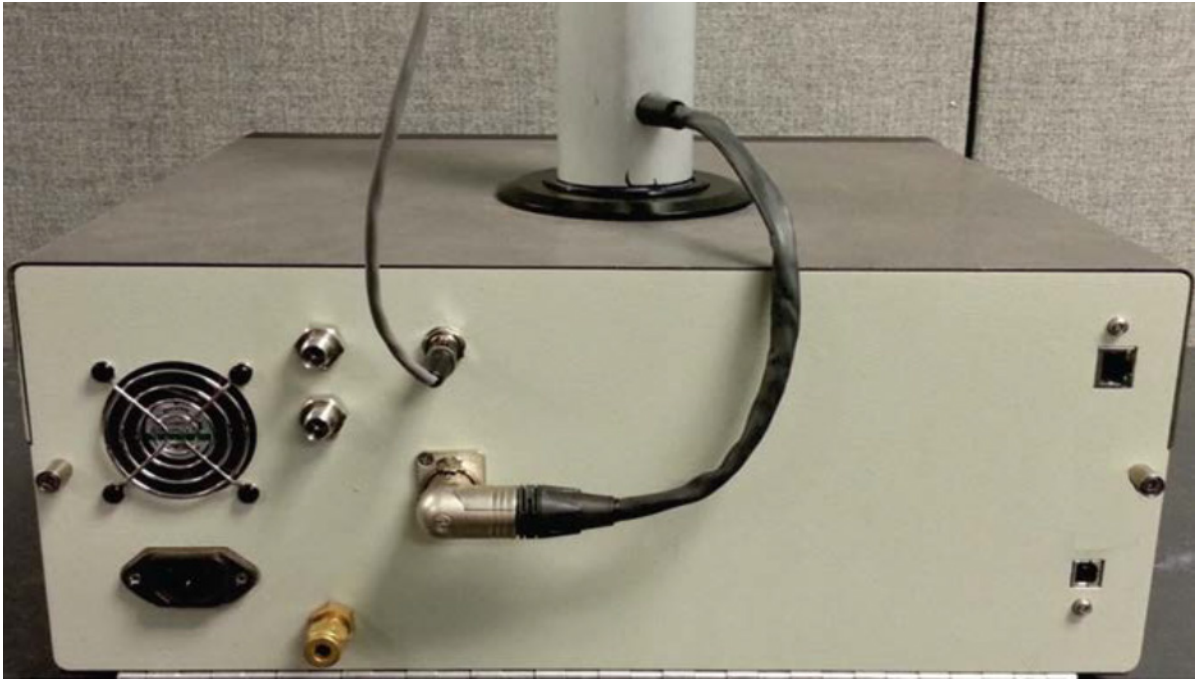

Figure 25. Ambient temperature probe and ASC connections.
1. Plug the ambient temperature probe connector into its respective rear panel electrical port (Figure 25).